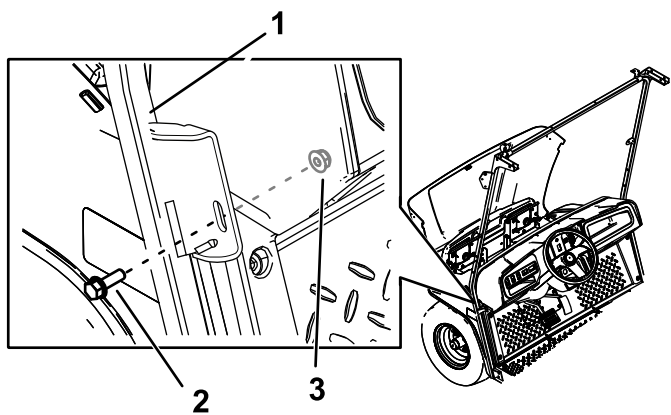

Figure 31
- Secure the middle bracket of the left and right windshield supports to the machine using 2 hex-flange bolts (5/16 x 1 inch) and 2 nuts (5/16 inch) in the holes you drilled (Figure 31).